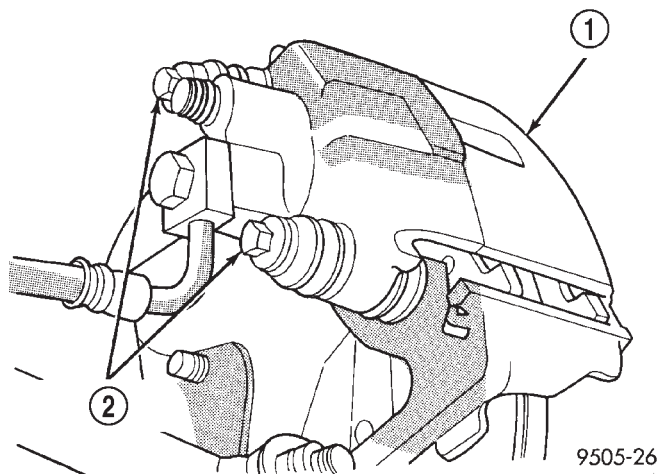

Fig. 94 Caliper Guide Pin Bolts
(1) Raise vehicle on jackstands or centered on a hoist. See Hoisting in the Lubrication and Maintenance section of this manual.
(2) Remove rear wheels and tires from vehicle.
(3) Remove the 2 guide pin bolts mounting the caliper to the adapter (Fig. 94).
(8) Install caliper guide pin bolts into adapter. (Fig. 94). Tighten the guide pin bolts to a torque of 22 N·m (192 in. lbs.).
(9) Install the wheels and tires.
(10) Tighten the wheel mounting stud nuts in proper sequence until all nuts are torqued to half specification. Then repeat the tightening sequence to the full specified torque of 135 N·m (100 ft. lbs.).
(11) Remove jackstands or lower hoist.
(12) Check brake fluid level.